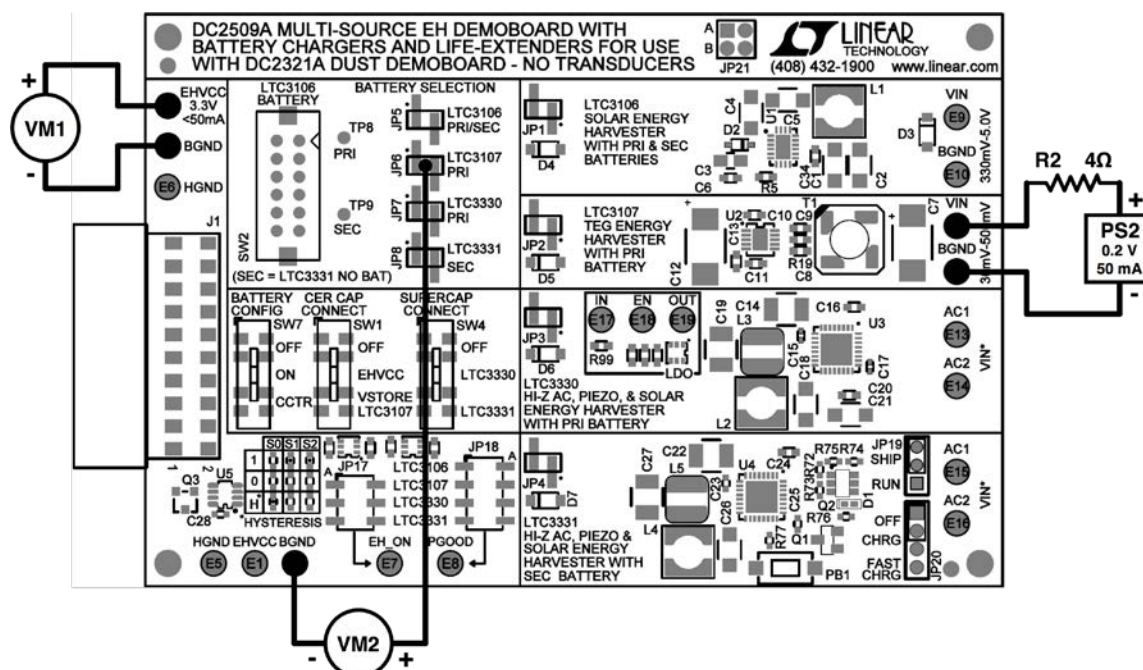

Figure 6. Setup for DC2509A Test Procedure with LTC3107
- 8) Reconfigure the board according to Figure 6: